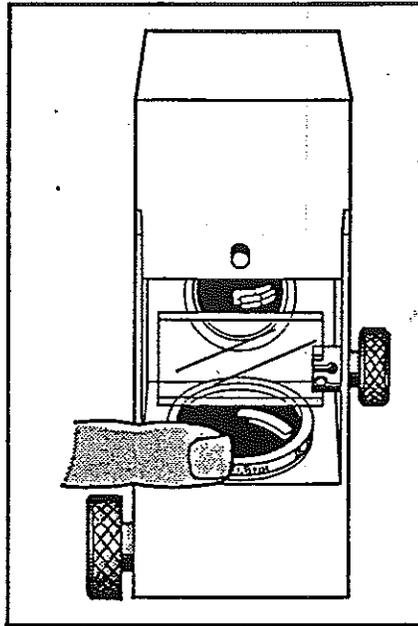

Fig. 25
- (i) The first polarizing filter ('PF1') is located below the 45° mirror; rotate it carefully until the projected disc is at maximum brightness (Fig. 25). (The maximum is imprecise, a more accurate result may be obtained by rotating the filter to give minimum illumination, and then rotating a further 90°.)